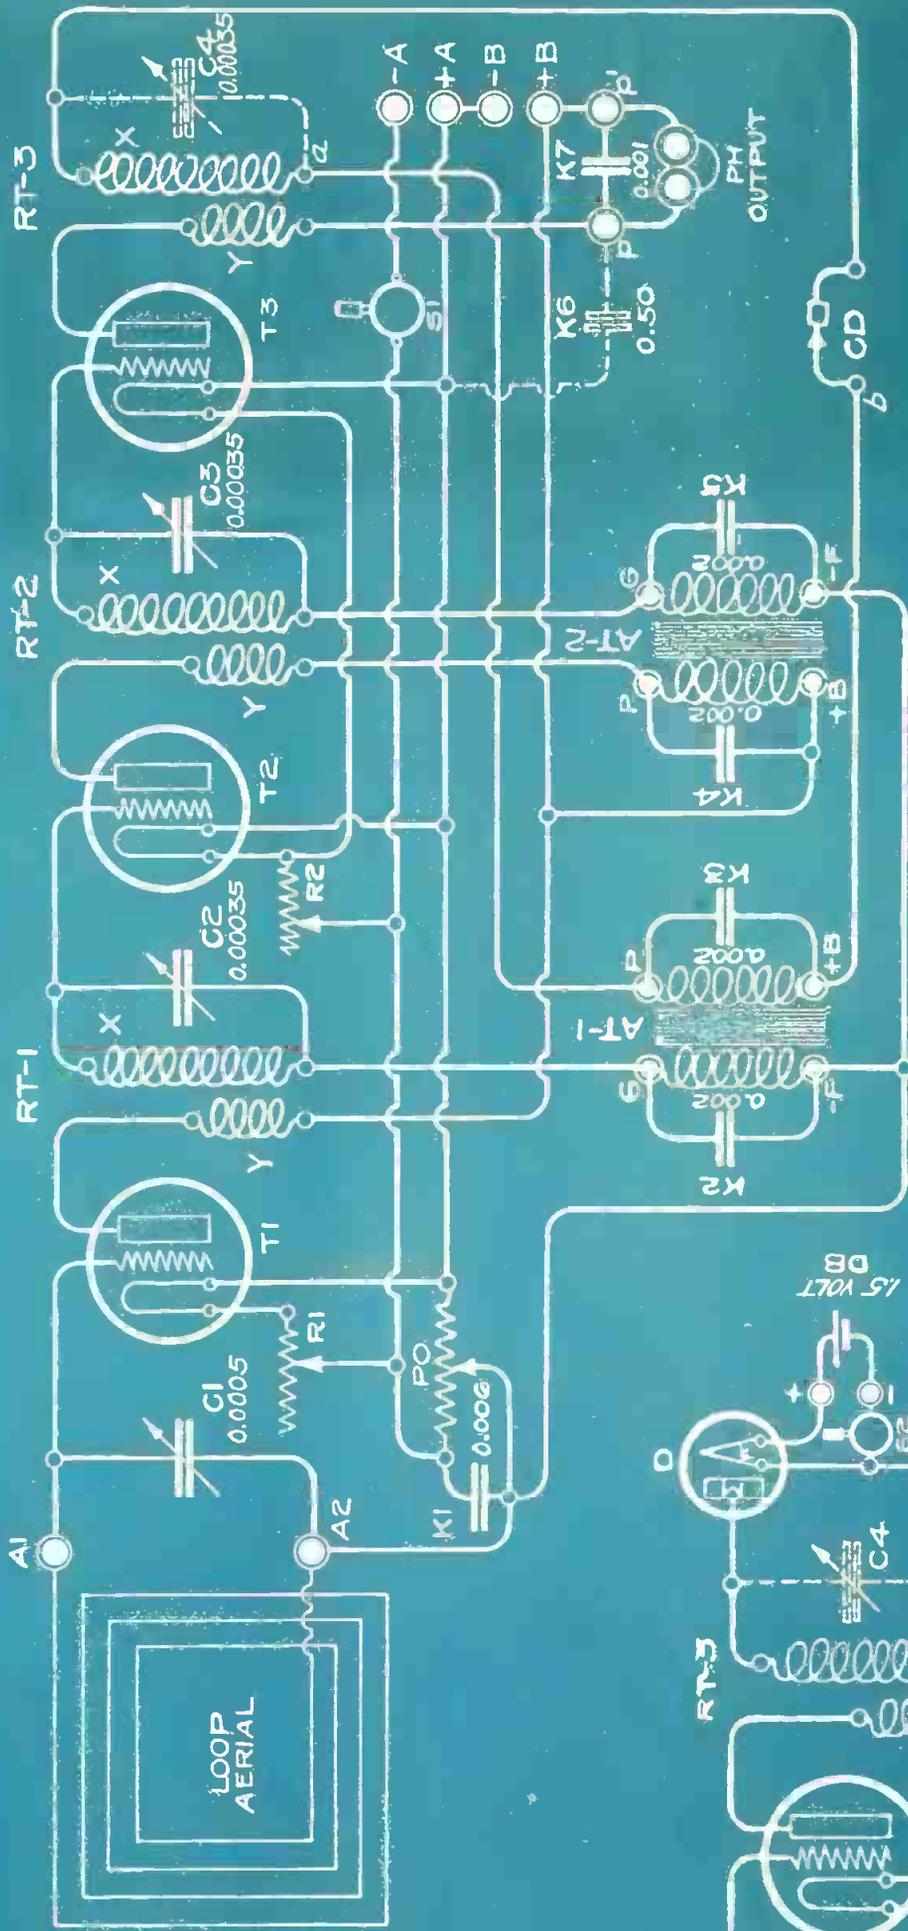
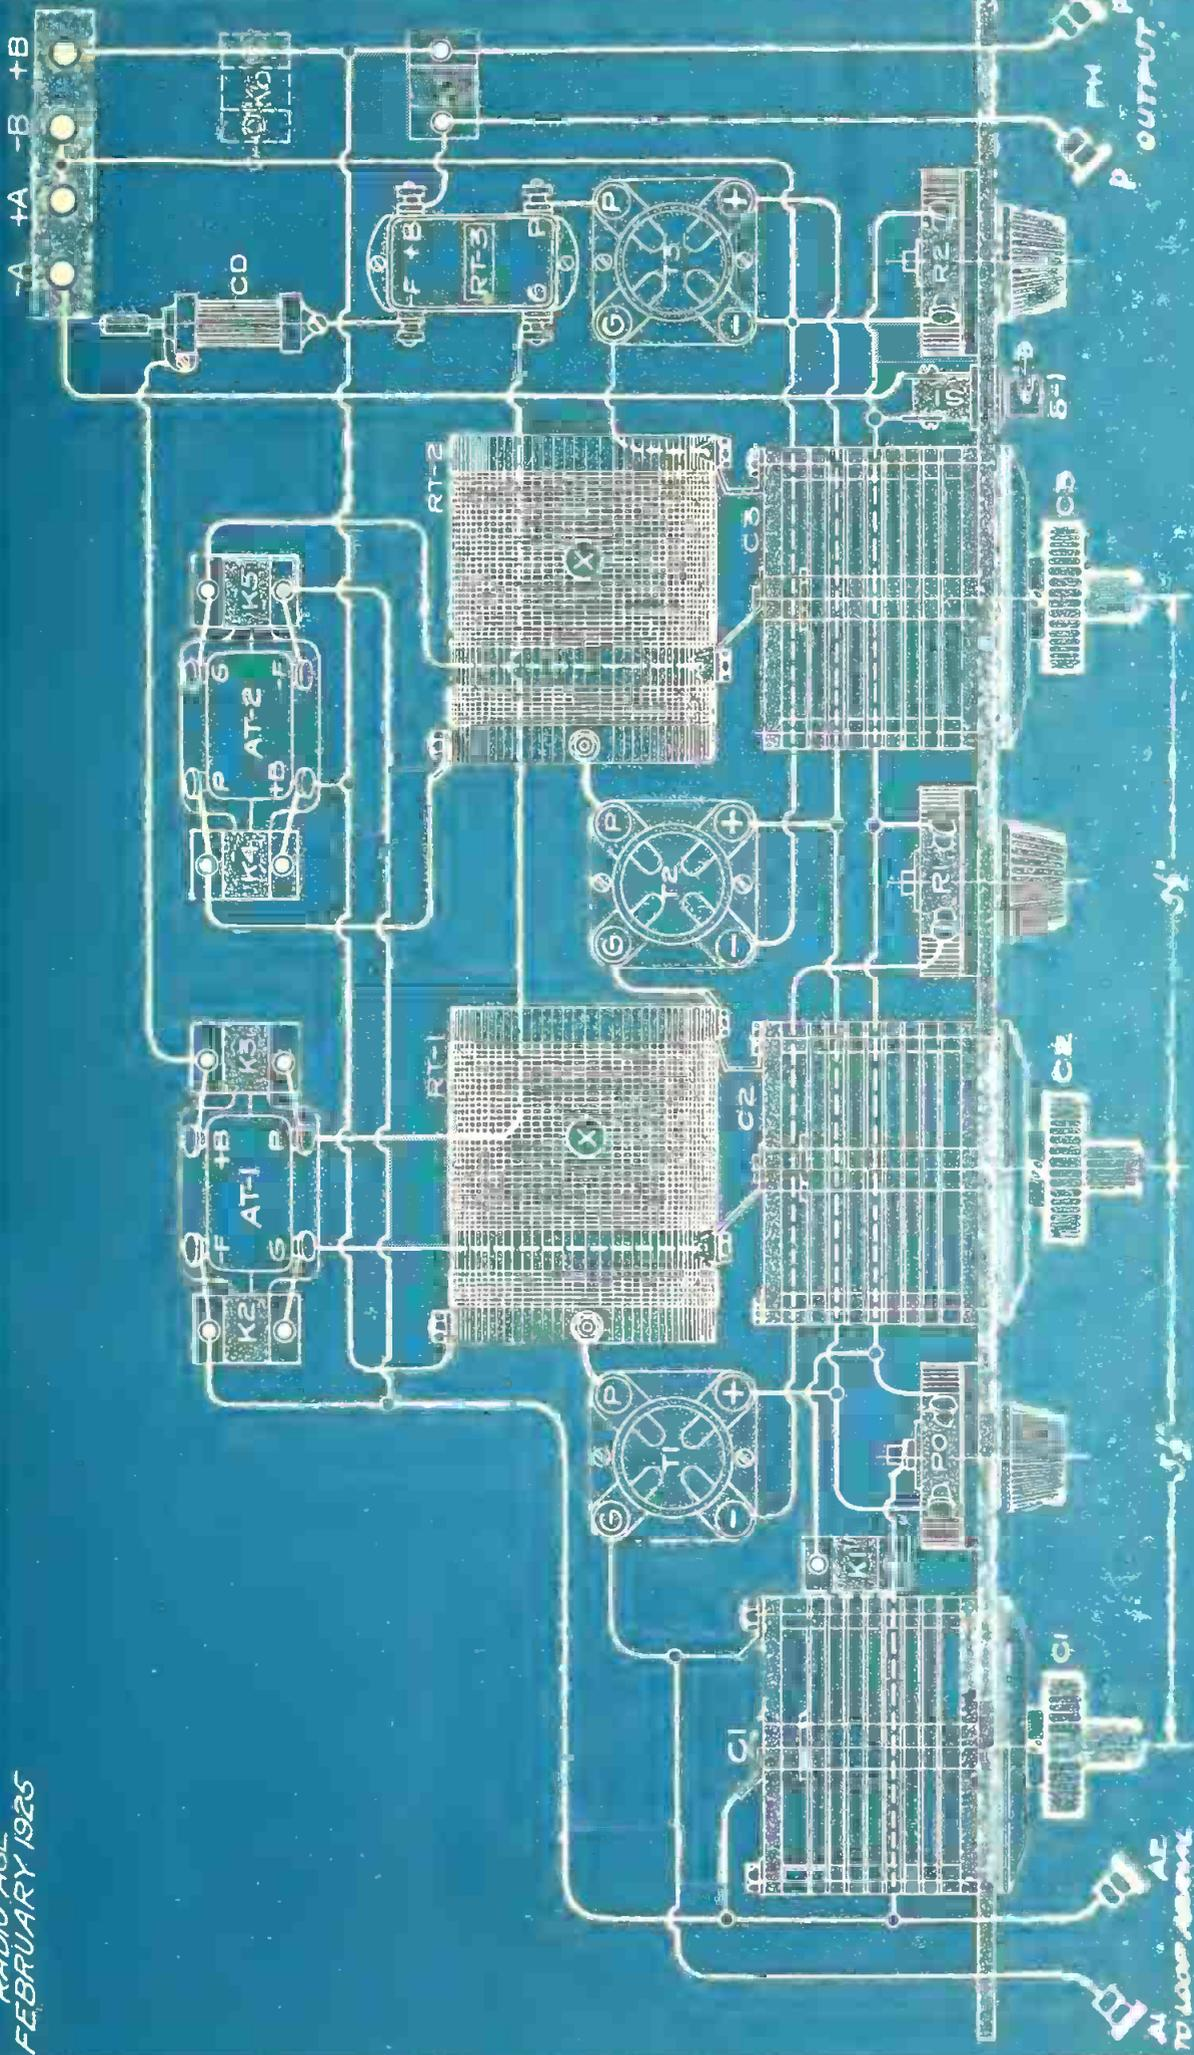

FIG. 1
Fig. 2
BOTH Fig. 1 and Fig. 2 show the same circuit but in different ways. Fig. 1 is the so-called conventional circuit with standard symbols for the more experienced builder, while Fig. 2 is a picture diagram for the novice. Fig. 3 is a panel layout showing arrangement of controls and approximate spacing of the panel mounted apparatus while Fig. 4 is an isometric view made for the purpose of showing how the apparatus actually looks back of the panel. For making the actual wiring connections, however, I strongly advise the wiring in either Fig. 1 or Fig. 2 be used, as many of the wires are concealed in the isometric view.
Now, looking at either Fig. 1 or Fig. 2, we see the three amplifying tubes T-1, T-2 and T-3. These may be either UV-201A or UV-199 tubes, but the WD-12 and WD-11 are not effective for this purpose. Two rheostats are used for the three tubes, one for the first radio stage (T-1) at (R-1) and rheostat (R-2) for the control of the two rear reflexed tubes (T-1—T-2). A plate voltage of 90 volts is supplied by the "B" battery to all of the tubes alike.
To avoid the use of so many condenser controls, the last transformer (RT-3) can be of the untuned type (Fig. 1) and by this method the variable condenser (C4) can be omitted as suggested by the dotted lines. This occasions a slight drop in the effectiveness of the circuit, but is usually advisable with sets operated by beginners. An untuned radio frequency transformer is shown at (RT-3) in Figs. 2, 3, 4. All the other stages are controlled or tuned across the secondary, which gives us three tuning controls including the loop tuner (C1). A standard loop aerial is connected across (A1) and (A2) in the usual manner.
At the extreme right in Fig. 1 is the crystal detector (CD) in series with the secondary coil (X) of the radio frequency transformer (RF-3). There is little requiring further explanation at this point than to say that the crystal circuit connects to the primary coil (P-B) of the first audio frequency transformer (AT-1). The leads running from (a) and (b) to the terminals (P) and (B) of the audio transformer (AT-1) should be temporary wires at first so that the connections (a) and (b) can be reversed in case of the transformer coils bucking. First, try them in the position shown and then reverse (a) and (b) to determine the best working position.